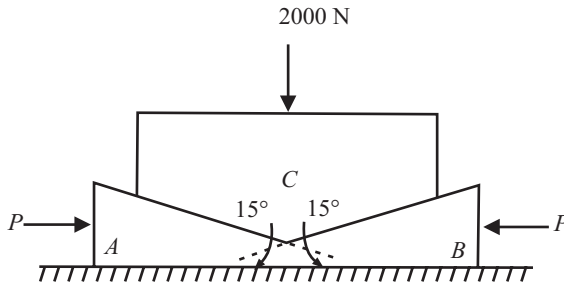

Fig 9.66
Q. 36: Two wedge blocks A and B are employed to raise a load of 2000 N resting on another block C by the application of force P as shown in Fig. 9.66. Neglecting weights of the wedge blocks and assuming co-efficient of friction $\mu = 0.25$ for all the surfaces, determine the value of P for impending upward motion of the block C.
$$\phi = 14^\circ \text{ Refer Fig. 9.66}$$